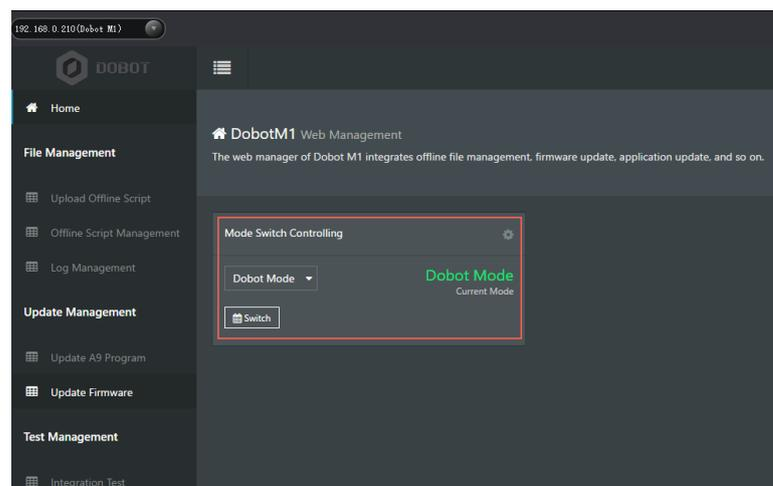

Figure 5.12 Status of Dobot M1
- M1Studio can be connected to Dobot M1 only when Dobot M1 is in Dobot Mode. You can check the current mode of Dobot M1 on the **Tools > Web Management** page, as shown in Figure 5.12. For details, please see *6.8 Operating Web Management*.